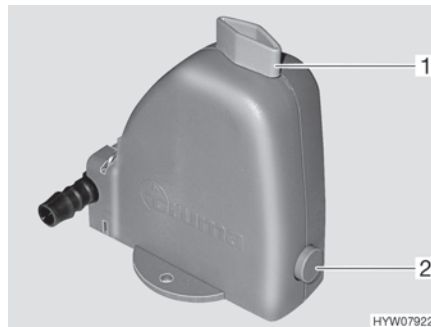

Fig. 123 Safety/drainage valve
The heater is equipped with a safety/drainage valve (Fig. 123). The safety/drainage valve prevents water for the production of hot water from freezing, when there is frost and the heater is not switched on.
- Close the safety/drainage valve. Turn the knob (Fig. 123,1) perpendicular to the safety/drainage valve and push the push button (Fig. 123,2) in.
- Open the safety/drainage valve. To do this turn the knob (Fig. 123,1) parallel to the safety/drainage valve. The push button (Fig. 123,2) jumps out. The domestic water container is emptied to the outside through the safety/drainage valve.